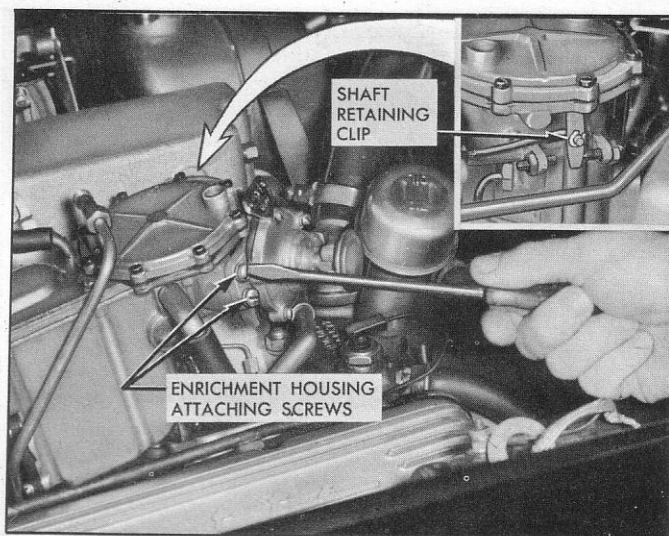

Fig. 47—Removing Enrichment Housing Attaching Screws
3. Remove clip retaining shaft to ratio lever and two diaphragm housing retaining screws (fig. 47), remove enrichment diaphragm assembly.